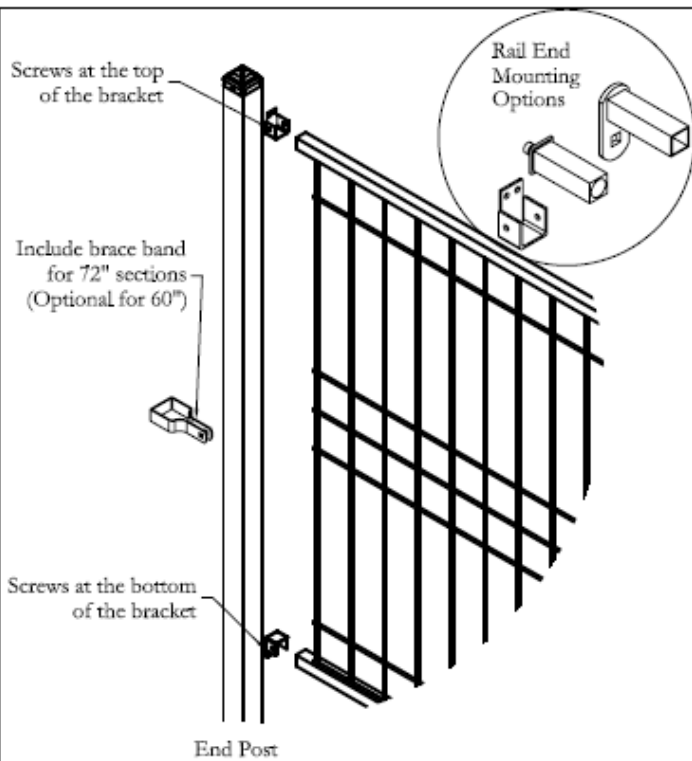

FIGURE 1
4. **For Traditional System**, sections will proceed from post to post using 4 of the selected rail ends (see Figure 1). Attach brackets as shown, or, if using screwless rail ends, drill 3/8” holes at 46 3/4”, 57 1/4”, and 68 1/4” center to center for 48”, 60”, and 72” fence heights respectively. For 72” heights 2-way (boulevard) bands have been provided for additional horizontal structural support for line posts and Brace Bands for End and Corner Posts (Optional for 60” height). These should be placed at approximately 36” (adjust for appearance). The rails will be level, so adjust the bracket height to take into account any space under the fence due to the slope of the ground. When the top and bottom brackets on a post are installed facing opposite directions, there is no need to use screws into the rails. Screws can be added if desired.
6. **For Passby and Retrofit Systems** sections will terminate on inside face of **terminal** posts only, Sections will attach to sides of line posts. For end sections in **Retrofit System**, remove enough of the ends of the rails next to the terminals to enable use of existing tension bands for added horizontal strength (Paint bands as posts or use new black tension or brace bands) For end sections in **Passby System**, attach same as Traditional System above (See Figure 1).